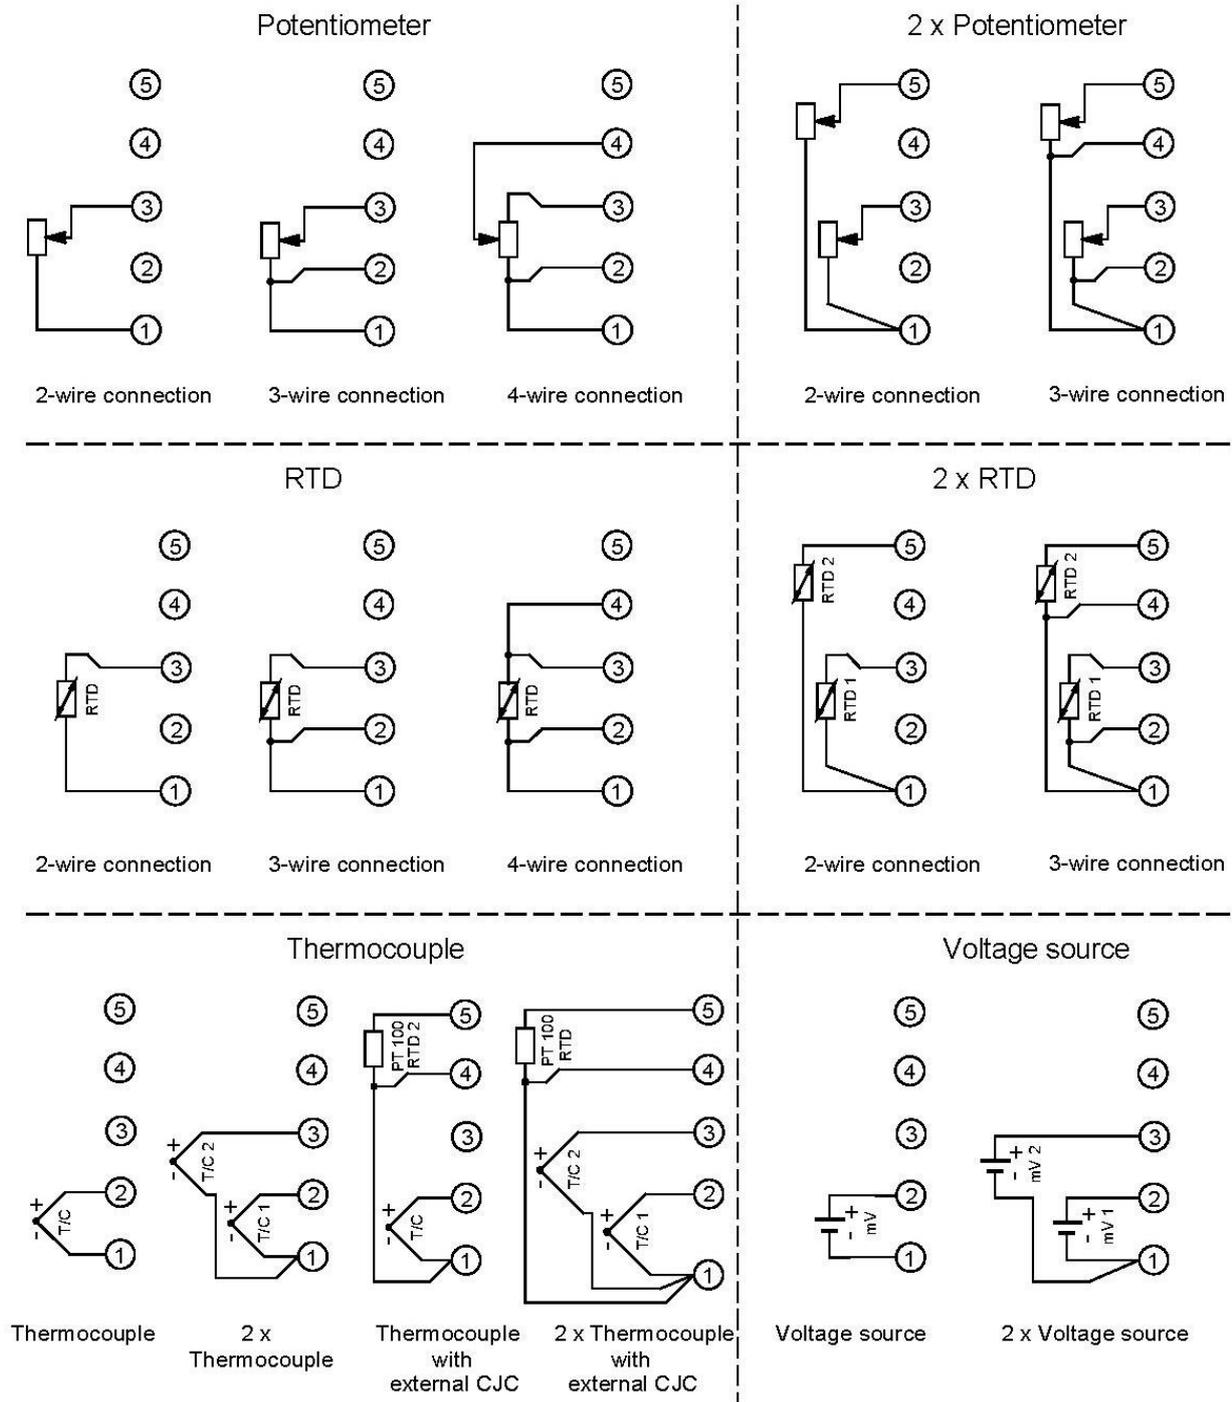

Figure 2. Methods of connecting sensors, potentiometers and voltage sources.
- type of the mathematical function processing the signal from two sensors (2 x RTD 2-wire connection, 2 x RTD 3-wire connection, 2 x thermocouple, 2 x thermocouple with external CJC (see →Figure 2. Methods of connecting sensors, potentiometers and voltage sources.)):